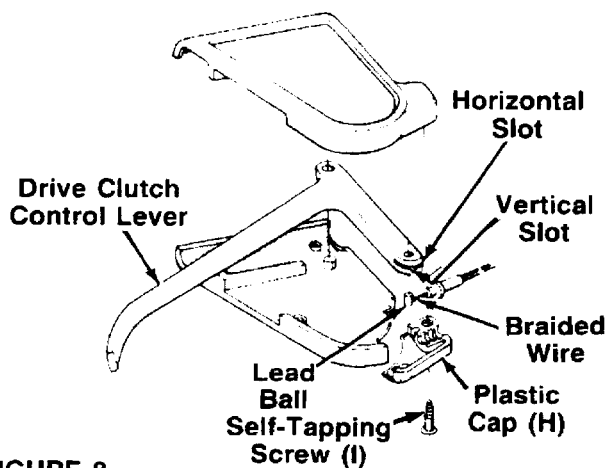

FIGURE 8.
- b. Slide the braided wire around in the horizontal slot. See figure 8.
- d. Secure the plastic cap (H) to the clutch control housing using the two countersunk self-tapping screws (I). See figure 8.